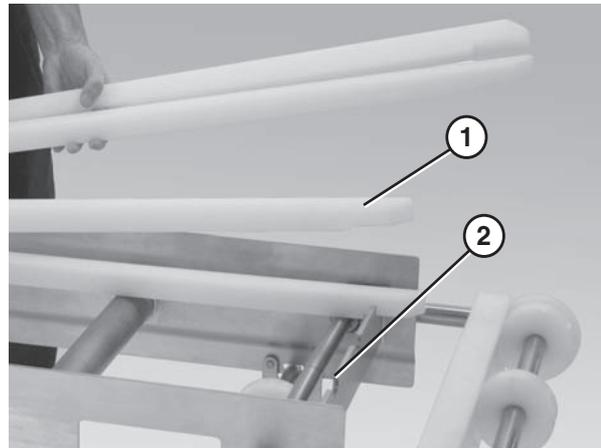

Figure 16
1. Position the wear strips (Figure 16, item 1) on the frame.
2. Make sure the wear strips are situated securely in the frame slots (Figure 16, item 2).